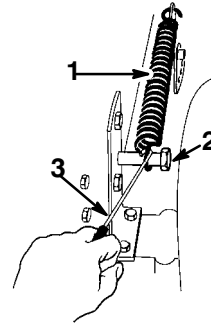

Figure 45
14. Hook the height-of-cut lift assist spring onto the retaining bolt (Fig. 45) using the spring tool provided with the machine.